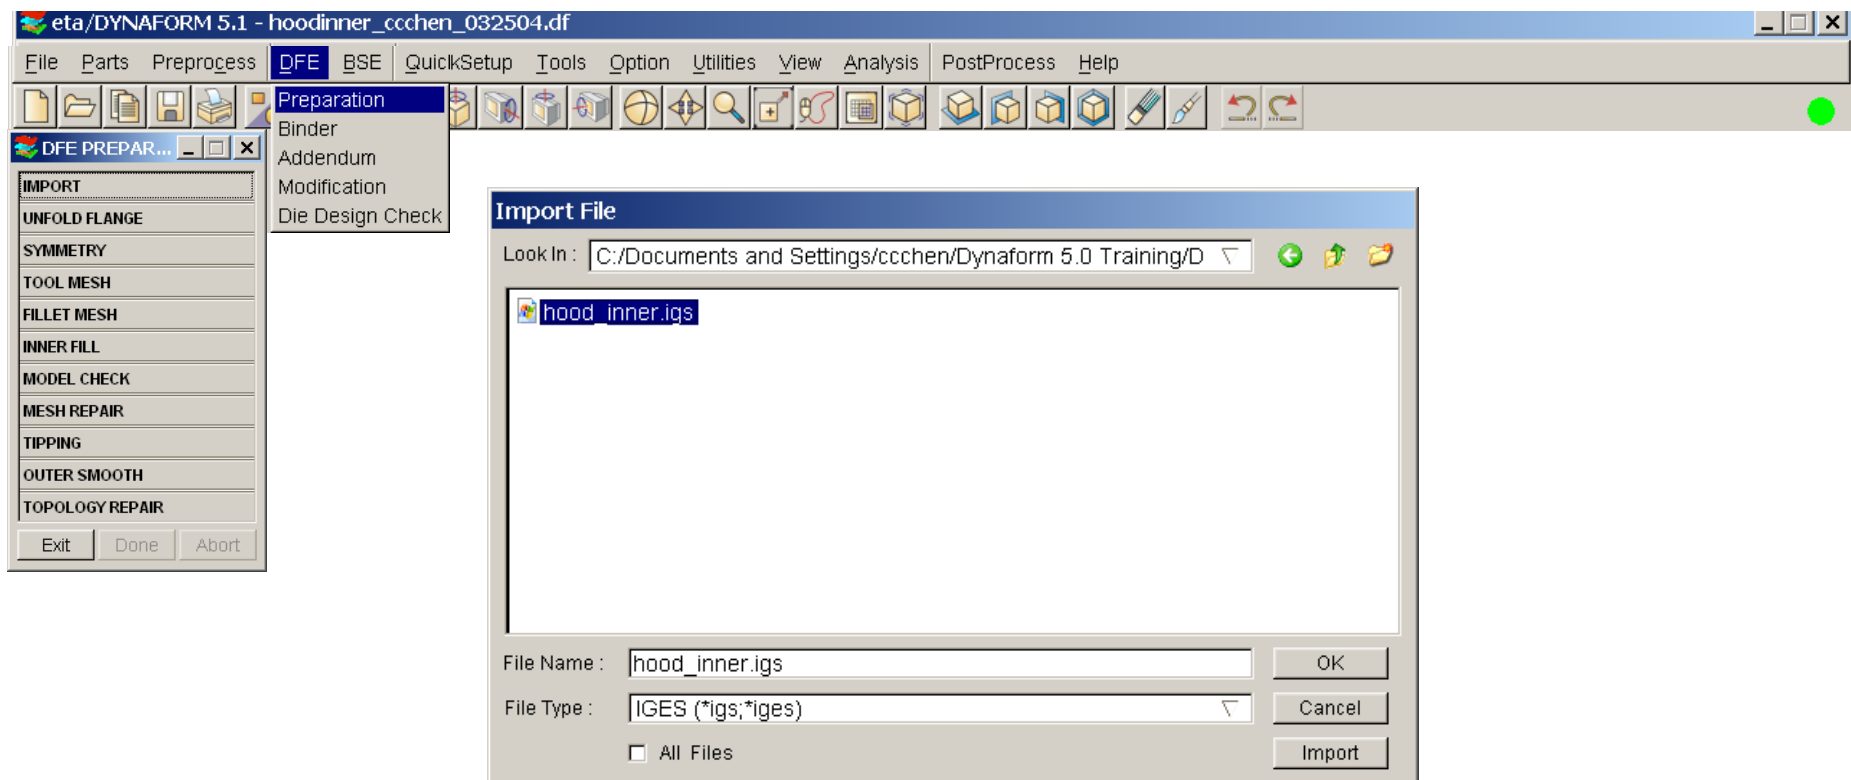

Figure 4.2
- a) Click on *DFE* (See Figure 4.2)